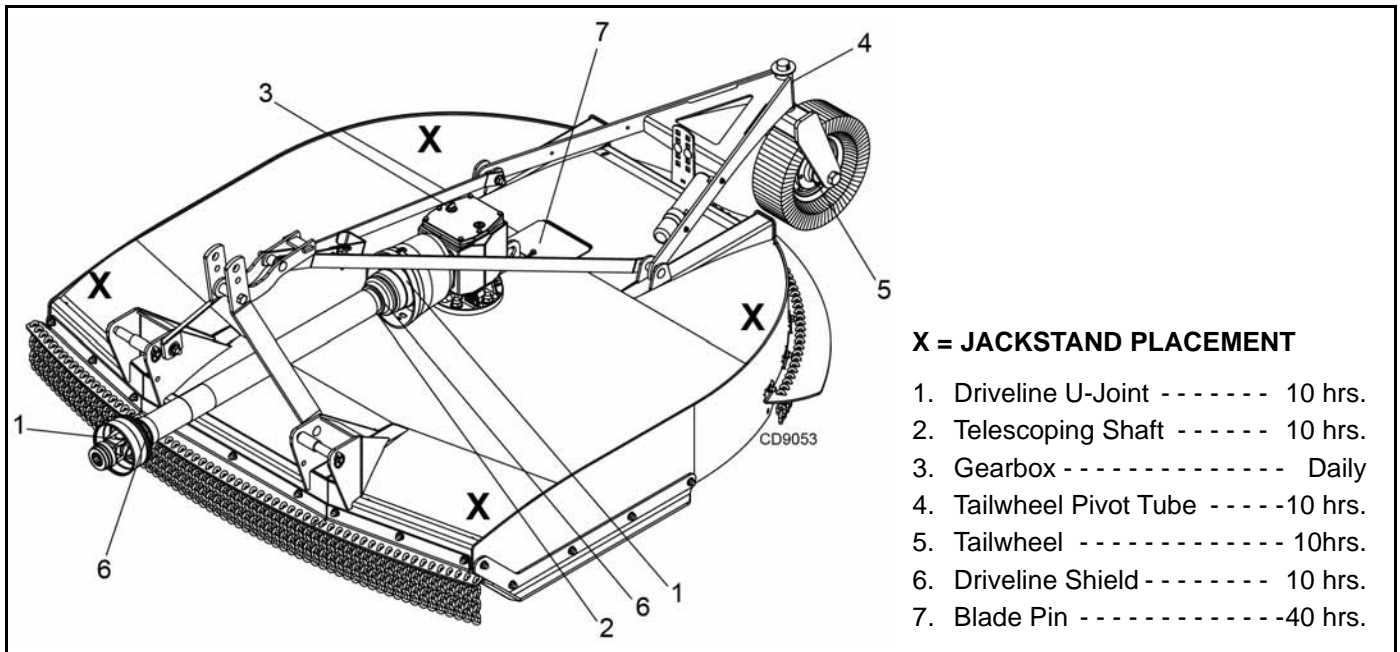

Figure 12. Jackstand Placement and Lubrication Points
1. Jackstands with a load rating of 1000 lbs or more are the only approved blocking device for this cutter. Install a minimum of four jackstands (shown by Xs in Figure 12) under the cutter before working underneath unit.
2. See Figure 12 for lubrication points and frequency or lubrication based on normal operating conditions. Severe or unusual conditions may require more frequent lubrication.
■ If blade pin (7) is seized in crossbar and extreme force will be needed to remove it, support crossbar from below to prevent gearbox damage.
2. Raise cutter and block securely (see **Blocking Method, Figure 12**).
3. Open blade access cover and align crossbar assembly (2) with blade access hole in the cutter frame. Remove cap screw (13) blade pin lock clip (12) keyhole plate (11) and shims (8, 9 & 10). Carefully drive blade pin out of crossbar.